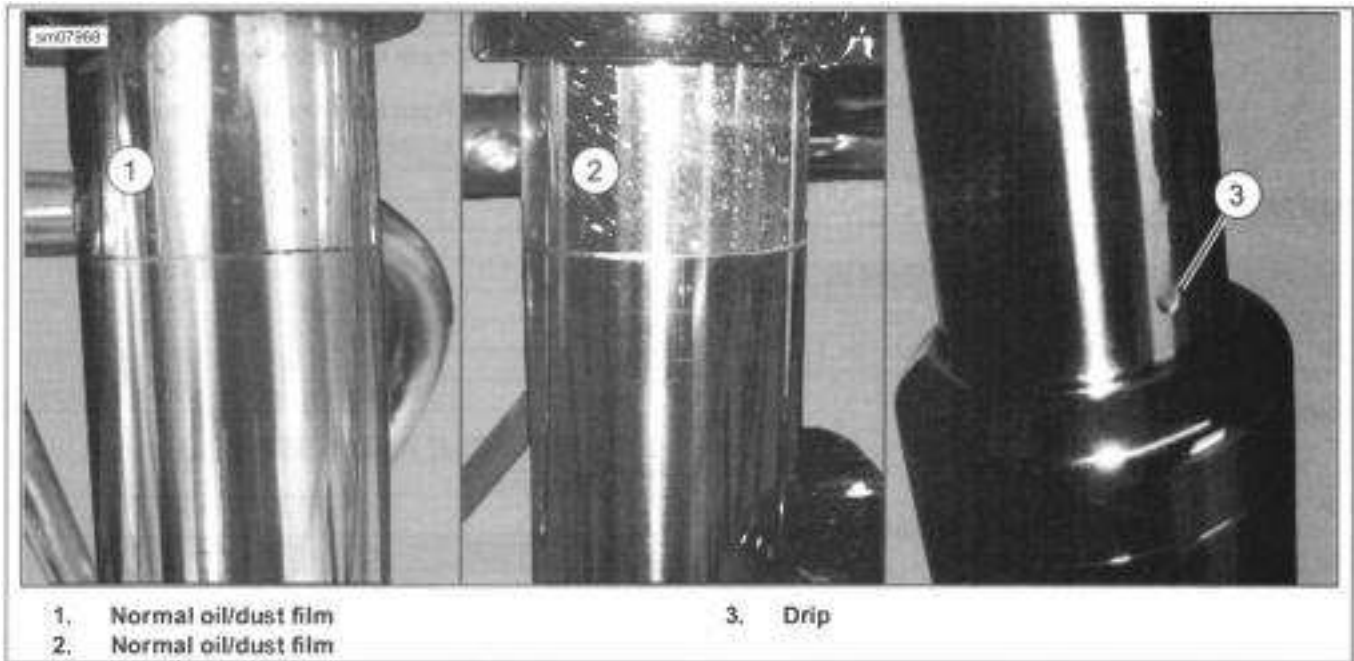

Figure 3-71. Front Forks
4. See Figure 3-71. Check fork slider tube for oil.
- b. If an oil run or drip (3) is present, perform procedure two or three more times to confirm oil leak.